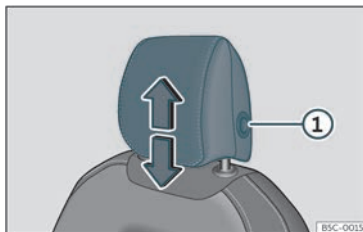
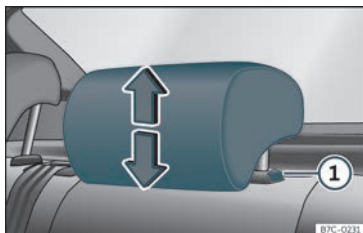

Fig. 106 Front seat: headrest adjustment.
Fig. 107 Rear headrest: headrest adjustment.
- Grab the sides of the head restraints with both hands and push upwards to the desired position. To lower it, repeat the same action, pressing the button on the side ① >>> **Fig. 106** >>> **Fig. 107**.
- Press the side button >>> **Fig. 106** ① and remove the headrest.